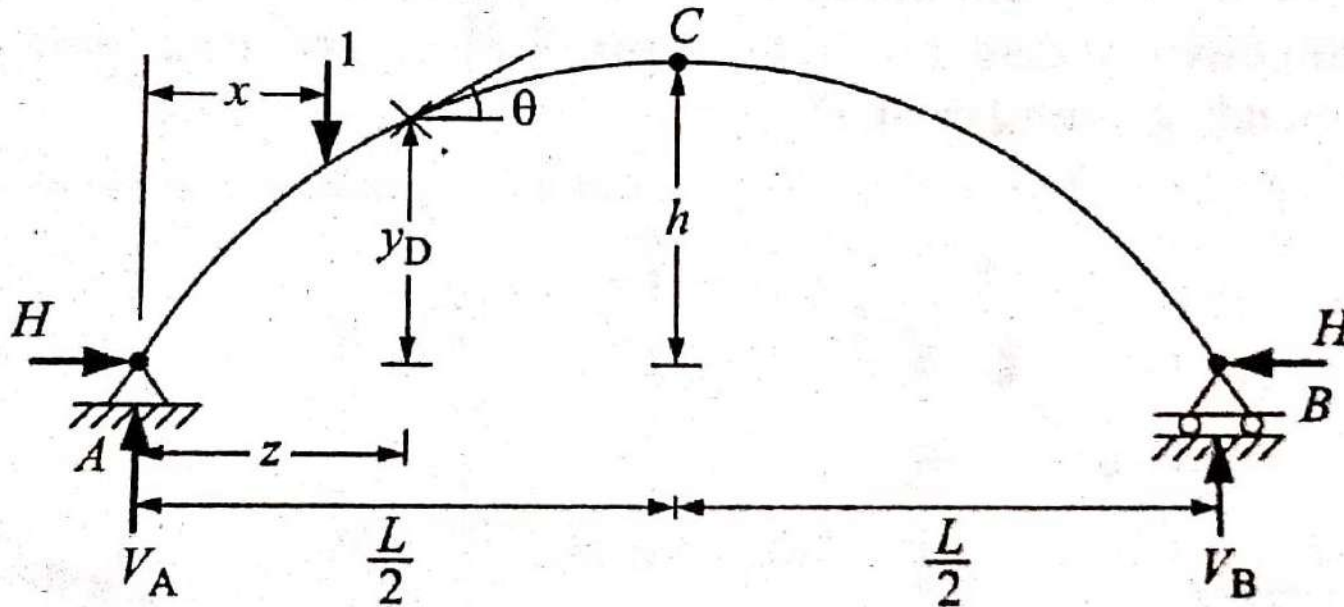

Figure 6: A typical three hinge arch with unit load
- Where, θ is the slope of the arch with the horizontal and V is the vertical shear as shown in Figure 6.